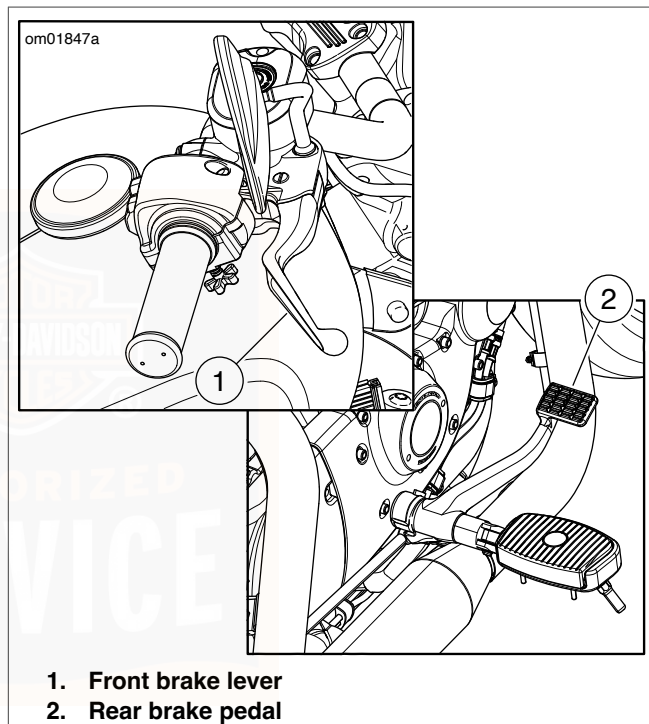

Figure 18. Brake Controls
See Figure 18. The front brake hand lever (1) controls the front wheel brake and is located on the right handlebar. Operate the hand lever with the fingers of the right hand.
See Figure 18. The rear brake pedal (2) controls the rear wheel brake and is located on the right side. Operate the rear brake pedal with the right foot.